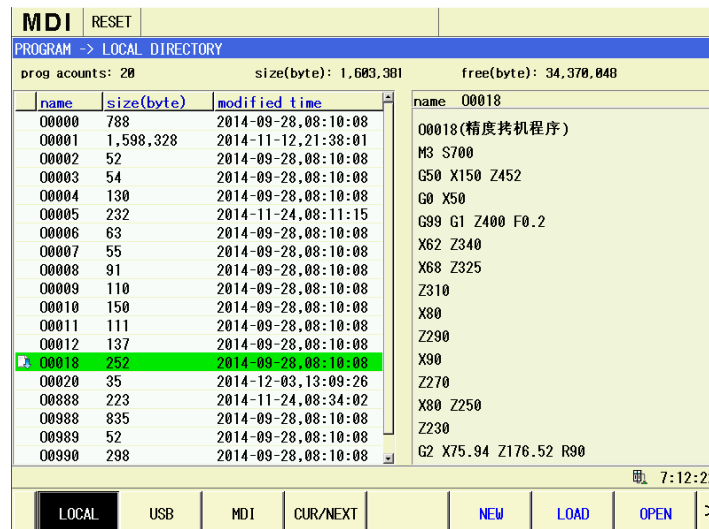

Fig.6-1
(1) Press  function key to enter the program page set.
(2) On the program page set, press , ,  and  keys to move the cursor to select the program name. Or press  key to search the program name to run, the base color of the selected program is green, which is shown as Fig. 6-1: